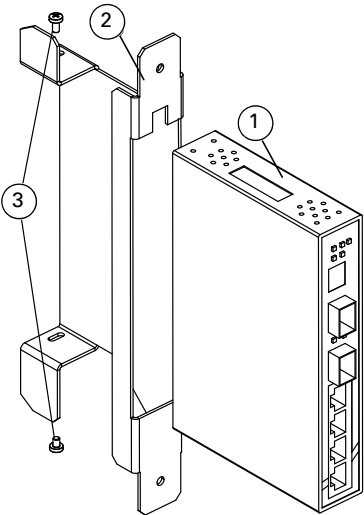
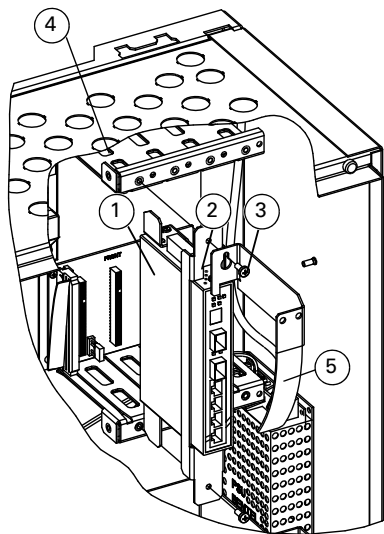

Fig. 1: Mounting the Ethernet switch to the slot cage holder
Fig. 2: Mounting the Ethernet switch and slot cage holder into the slot cage.
- Slide the Ethernet switch (refer to item 1 in Fig. 1) into the slot cage holder (item 2).
- Align the back of the Ethernet switch with the back of the slot cage holder and secure it with the screws supplied (item 3).
- Prepare the power supply cables and feed them through the top of the slot cage holder (refer to item 4 in Fig. 2). Connect the wires into the terminal block on the Ethernet switch. Observe the correct polarity. If you require redundant power supply wiring, follow the same procedure.
- Slide the slot cage holder (refer to item 2 in Fig. 2) into the slot cage in the panel.
- If the switch is a POS800, attach the fibre-optic holder (item 5) into the slot cage and secure it with screws (item 3).